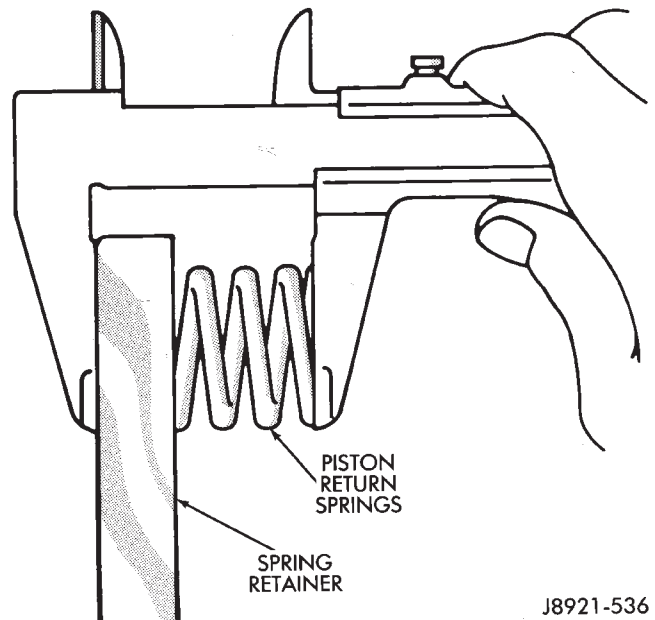

Fig. 16 Checking Piston Return Spring Length
(18) Check overdrive clutch disc thickness. Minimum allowable thickness is 1.84 mm (0.0724 in.).
(19) Measure free length of piston return springs with springs in retainer (Fig. 16). Length should be 16.8 mm (0.661 in.).